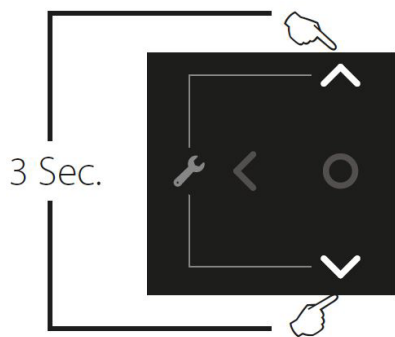

Fig. 1: Installer Button
1. To access the Installer screen, touching simultaneously the up and down soft keys for 3 seconds as shown in Fig. 1.